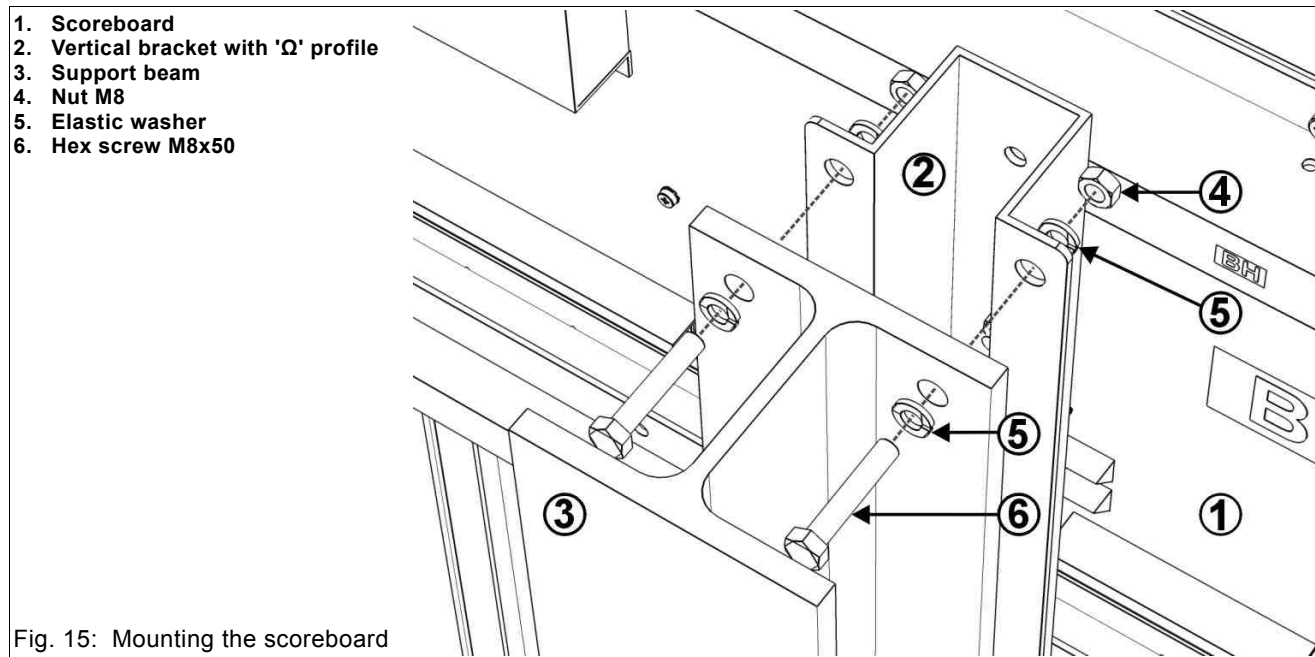

Fig. 15: Mounting the scoreboard
3. Reposition the scoreboard near the beams and fasten it with the **M8x50** screws, the washers, and the nuts (see Fig. 15 – Tightening torque: 20Nm).